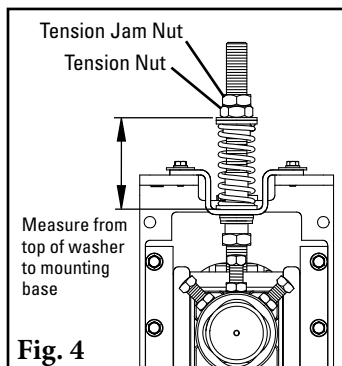

Fig. 4
4. **Set the blade tension.** Loosen the top tension jam nuts on both sides. Turn the tension nuts until the correct spring compression is reached (Fig. 4). Spring compression is determined by spring length. See the chart at right for the correct spring length for your belt width.
4. **Ensure the tensioner travels freely.** Pull up and push down on each pole end to ensure the pole mount travels freely on the guide pole. If there is any sign of binding, loosen the bolts on the mounting base and pivot until the tensioner moves freely (Fig. 4). Retighten bolts.